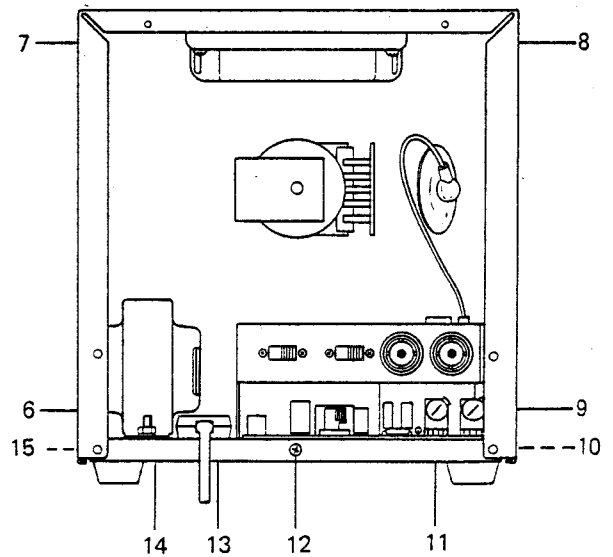

Fig. 2
1. First remove the cabinet back and remove four(6 - 9) screws securing the cabinet. (See Fig. 2)
3. Remove six(10 - 15) screws. Separate chassis from the escutcheon. (See Fig. 2)